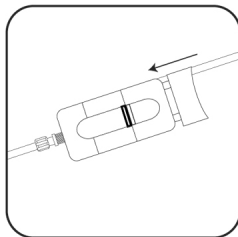

Figure 10: Slide the AirPulse Handle full-forward. A GREEN indicator light is displayed.
- ⇒ Slide the AMS handle to the full forward position (Fig. 10). A solid **GREEN** indicator light is displayed.